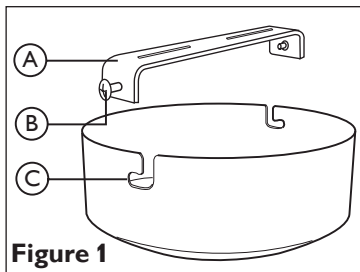
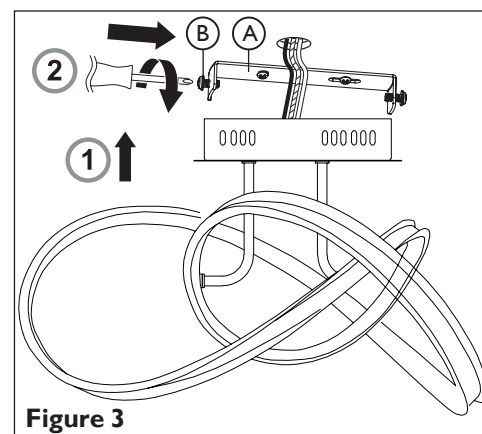

Figure 1
Figure 3
Refer to Figure. 1 Remove the fixing bracket (A) from the ceiling cover by removing the side screws.
Refer to Figure 3. Attach the product to the ceiling. This product has “L” shaped fixing slots (C) to allow easy attachment to the fixing bracket, as shown in Figure 1. Locate the “L” slots around the small screws (B) on the fixing bracket (A) Rotate the ceiling cover to attach the product to the bracket. Tighten the screws to secure. Take care not to trap any wiring.